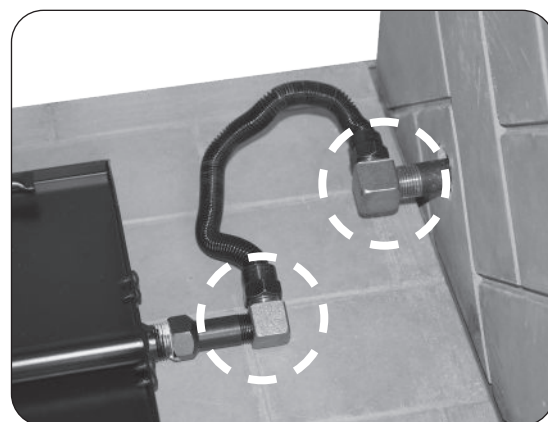

Fig. 11-3 Perform leak test
6. **LEAK TEST:** Follow the appropriate LIGHTING INSTRUCTIONS for your model to ignite the burner. Test at all connections for leaks using the appropriate soapy water solution. See Fig. 11-3. If bubbles appear, a leak is present. Turn off the gas and tighten at all connections. Repeat until no leaks are present. If a leak persists, turn off the gas supply and contact the local gas company or dealer. **NEVER USE A FLAME TO CHECK FOR LEAKS.**